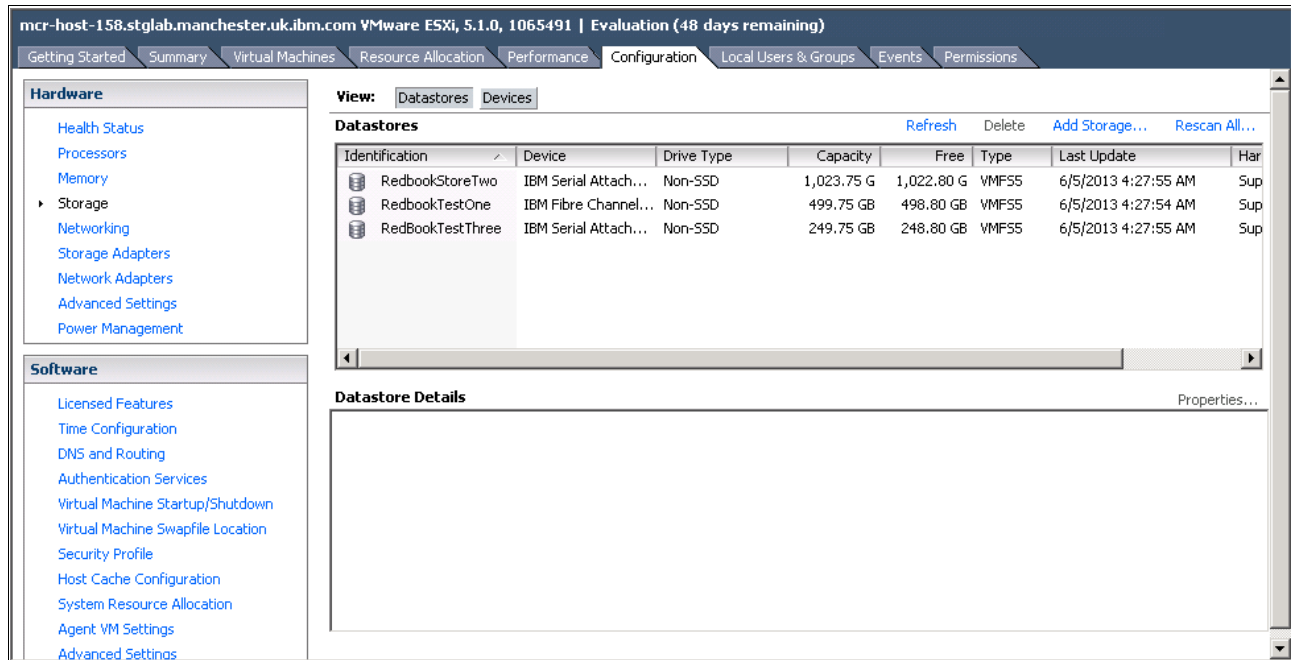

Figure 5-103 Add Storage task complete
- Click **Next** and the final window presents the choice of creating the Datastore with the default maximum size of the volume or a proportion of it. After you click **Finish**, the wizard closes and you return to the storage view. In Figure 5-103, you see that the new volume was added to the configuration.